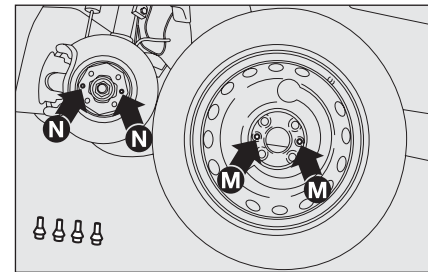

fig. 15
- Fit the spare wheel making the holes **M-fig. 15** coincide with the respective centring pins **N**;